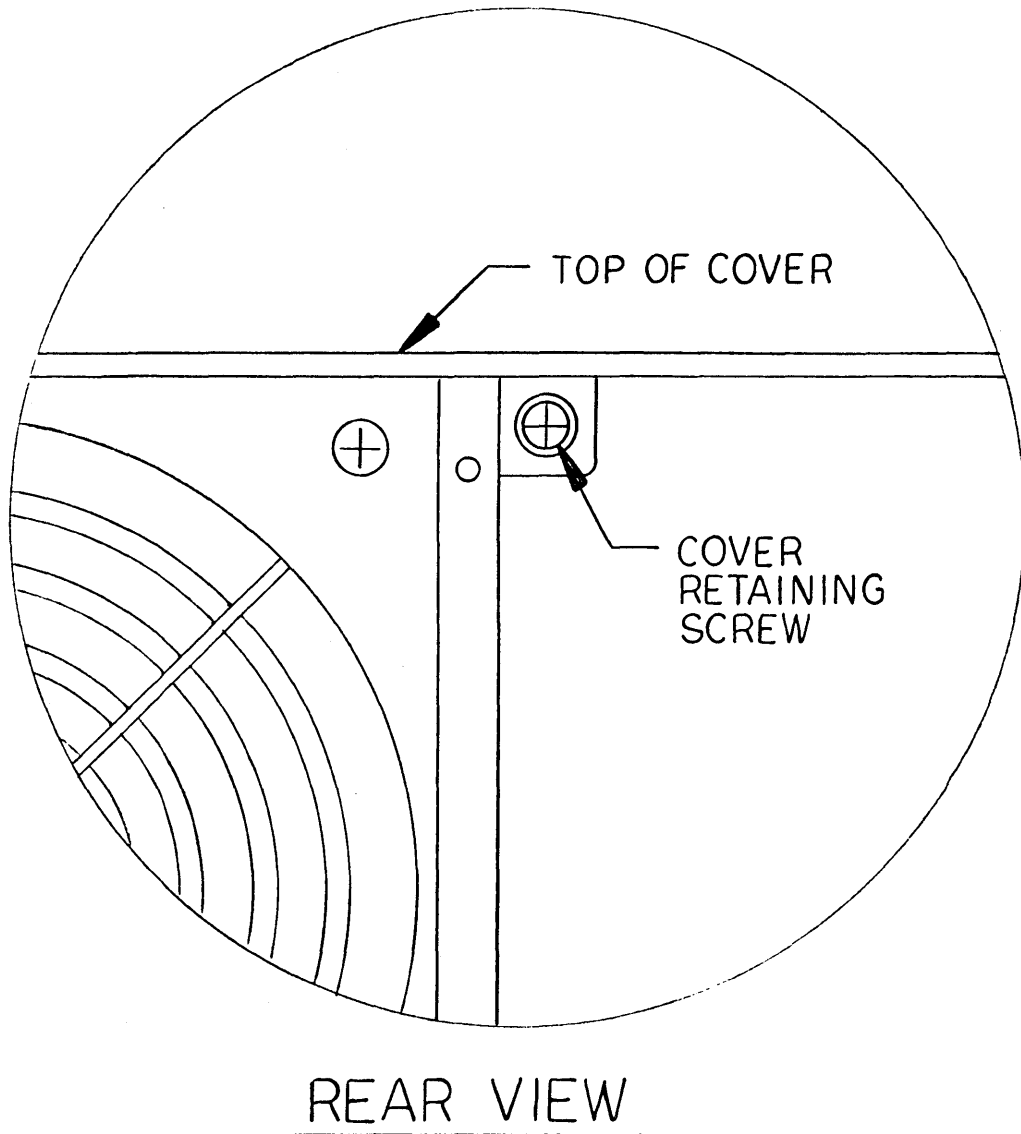

Figure 3-3. Retaining Screw Location
- a. To remove the cover from the console, first remove the screw in the upper left rear of the cabinet. See Figure 3-3, Retaining Screw Location.